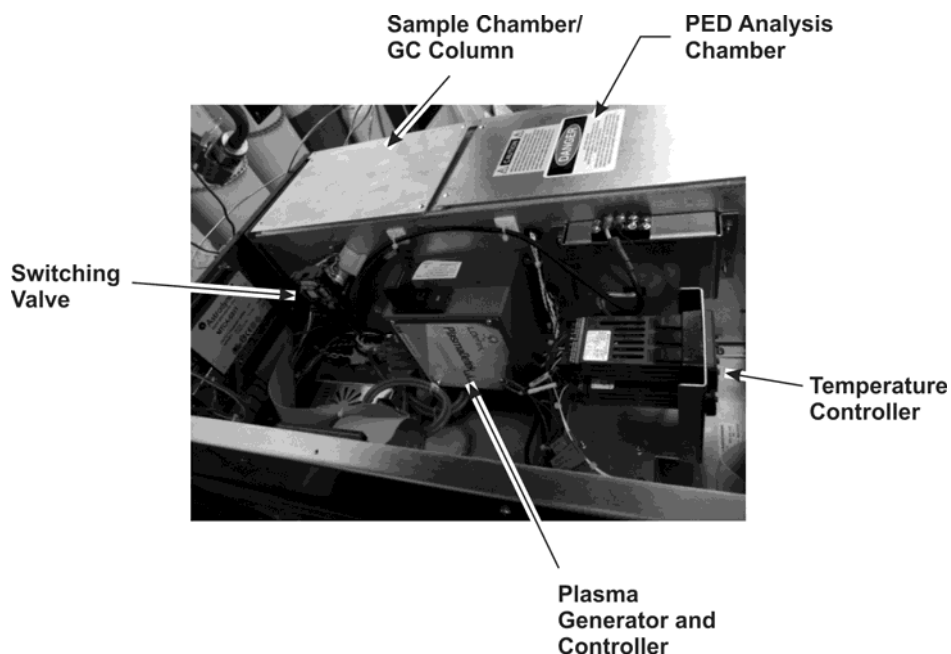

Figure 2-1: Major Internal Components
The Model 4060-PED Analyzer uses a Gas Chromatograph (GC) Column and a Plasma Emission Detector (PED) for separating and analyzing the nitrogen content of a hydrogen gas stream. See Figure 2-1. Using a carrier gas and a microprocessor actuated switching valve, a fixed volume of sample is pushed into the column maintained at a constant temperature. The eluted gas is ionized using a plasma generator and the emission spectrum is then analyzed for nitrogen. During the analysis the column is back flushed to accept the fresh sample for the next cycle. Actual separating and detecting sequence may vary depending on how the analyzer is configured for your specific application.